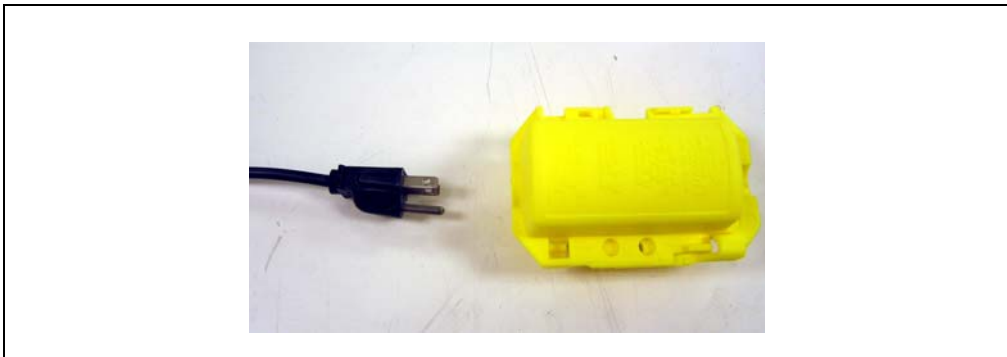

Figure H-3. Lockout Device
- a. Use a lockout device similar to the one shown in Figure H-3. For a standard-size plug, use HUBBELL P/N HLDMP, as shown in Figure H-3. The cable shown in Figure H-3 is a molded power cable used as an example.